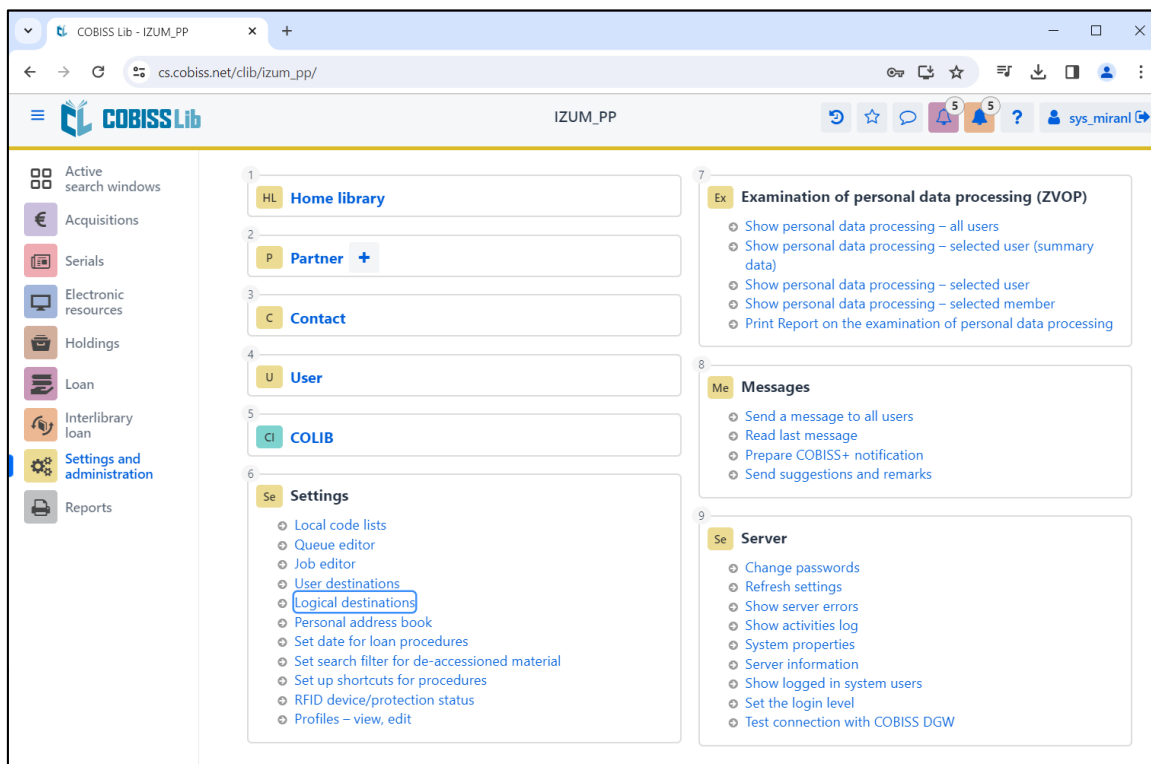

Figure 10: COBISS Lib user interface and logical destinations
- Figure 10: COBISS Lib user interface and logical destinations6
In COBISS Lib select **Settings and administration / Settings / Logical destinations** (see Figure 10).